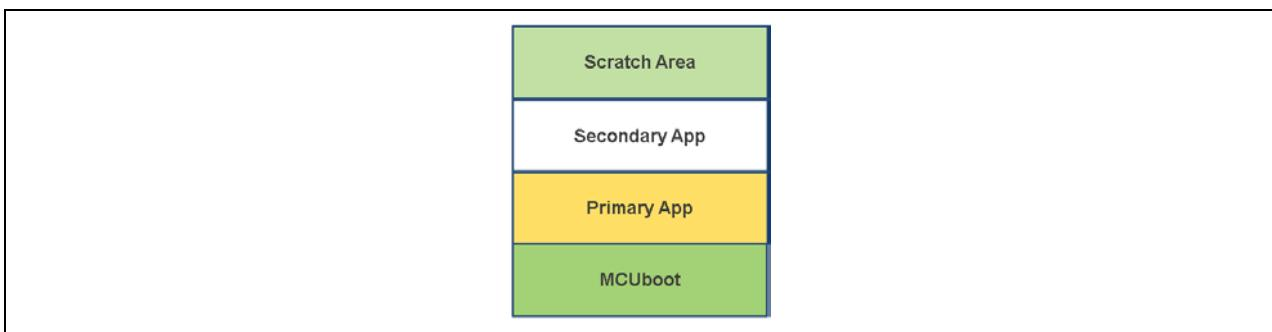
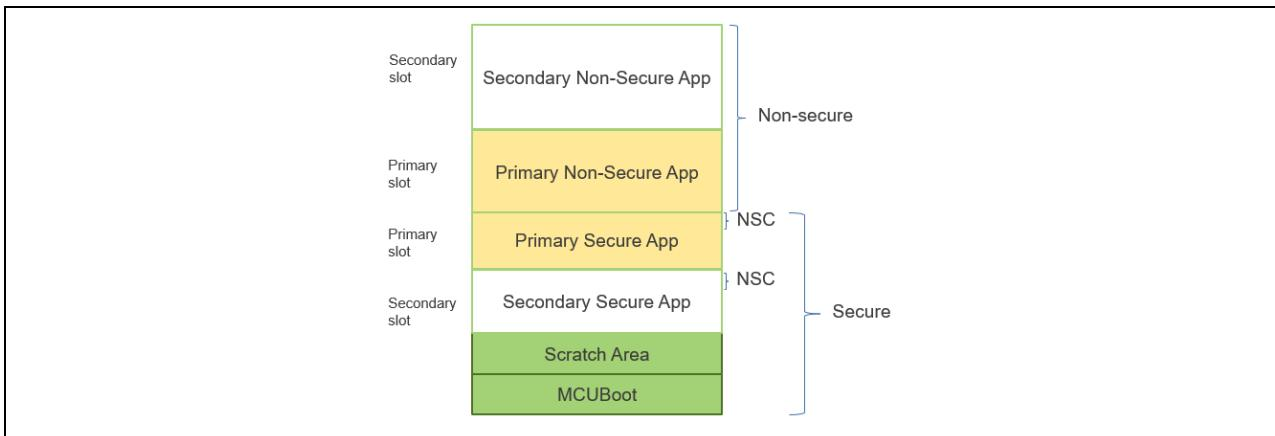

Figure 1. Single Image MCUBoot Memory Flash Map
Figure 2. Two-Image MCUboot Module Memory Map (TrustZone)
For applications using MCUBoot, the MCU memory is separated into MCUBoot, Primary App, Secondary App, and the Scratch Area. Figure 1 is an example of the single-image MCUBoot memory map. For more information on the MCUBoot memory layout, refer to the Flash Map section of the MCUBoot website.
For single-image projects, refer to Figure 1 from section 1.2.1 to see the default memory map layout. For applications with two separately updateable images, such as TrustZone applications where the Secure and Non-Secure images can be updated separately, the default memory map layout is shown in Figure 2.
- Develop the bootloader and analyze the MCU memory resource allocation needed for the bootloader and the application. The bootloader memory usage is influenced by the application image update mode, signature type, and whether to validate the Primary Image. The bootloader maintains a memory map of all the different images shown in Figure 1 and Figure 2.